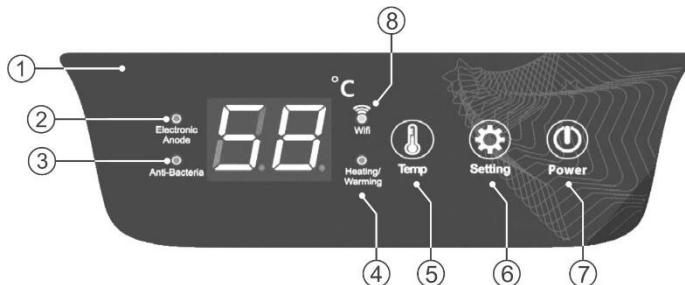

Figure 2. Electronic control board
Figure 2: 1 – LED display, 2 – indication «Electronic Anode», 3 – indication «Anti-Bacteria», 4 – indication «Heating/Warming», 5 – button «Temp», 6 – button «Setting», 7 – button «Power», 8 – indication «Wi-Fi».
Switching on or switching off of the EWH is performed by pressing the button «Power» (Fig. 2, p. 7).
During the operation of the EWH, the user can adjust the temperature of the water heating using button «Temp» (Fig. 2, p. 5). The temperature would increase by 1°C each time. Long press increases the data rapidly (5 times/sec.).
«Anti-Bacteria» (Fig. 2, p. 3) indication lights up when Anti-Bacteria mode is switching on. Selection of this mode is performed by pressing the button «Setting» (Fig. 2, p. 6), on the control panel. Under this mode the temperature is not adjustable, the system will enter the heat preservation state after heating to 80°C, and return to standard work after 30 minutes of heat preservation.
«Electronic Anode» (Fig. 2, p. 2) indication lights up when electronic anode is working normally, and it flashes when it is abnormal.
«Heating/Warming» (Fig. 2, p. 4) indication lights up with red light for normal heating, green light for keep warming and it flashes under Anti-frost heating. Anti-frost mode activated when power is on and water temperature in inner tank is lower than 5°C then will stop and standby after heating up to 10°C.
2. On water heater panel press and hold button «Power» for 3 seconds when power is on (Fig. 2, p. 7). Appears Wi-Fi indication (Fig. 2, p. 8).